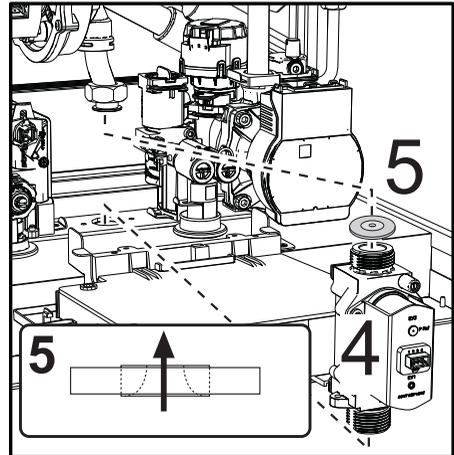

fig. 60
- Remove the gas valve "4" and the gas diaphragm "5" (fig. 60).